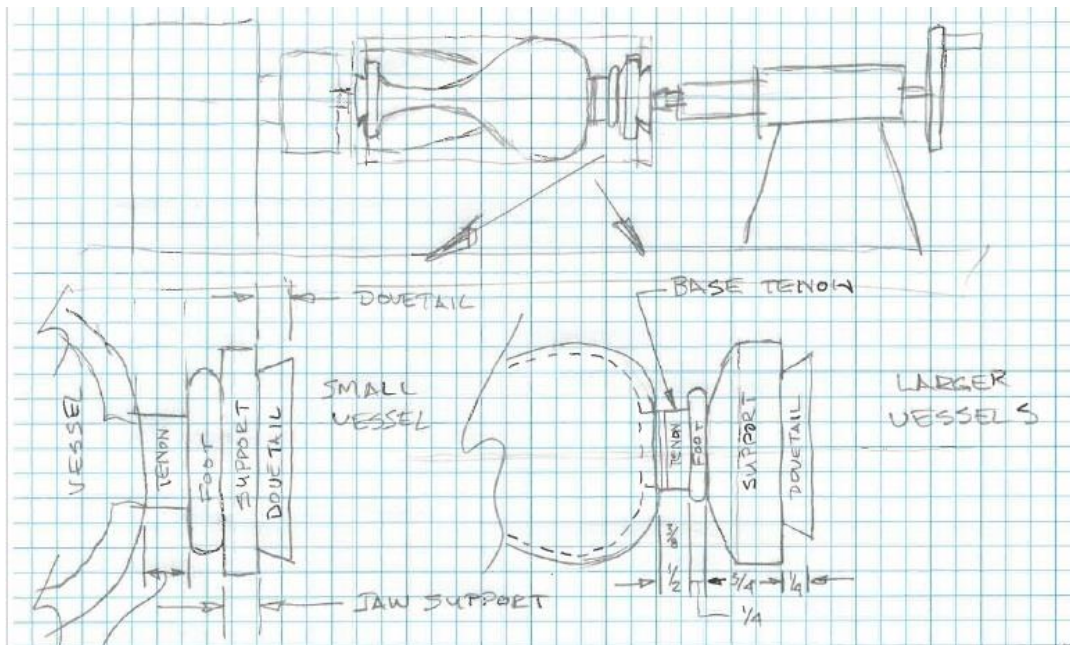

Figure 3, Tenon & Base Details
13. Now it is decision time. See Figure 3. The final diameter of the base tenon needs to be turned. This is usually easiest to do with a $\frac{1}{8}$ -inch parting tool. The size of the tenon needs to be small enough to be hidden with the foot but big enough to be able to support the vessel when it is turned around to finish the top. Depending on the size of the vessel I like to keep the length of the base tenon $\frac{1}{4}$ to $\frac{3}{8}$ inch long and about $\frac{1}{4}$ of the vessel diameter. The goal is to have enough support to hold the vessel for turning after the base is hollowed and the foot is glued back in.